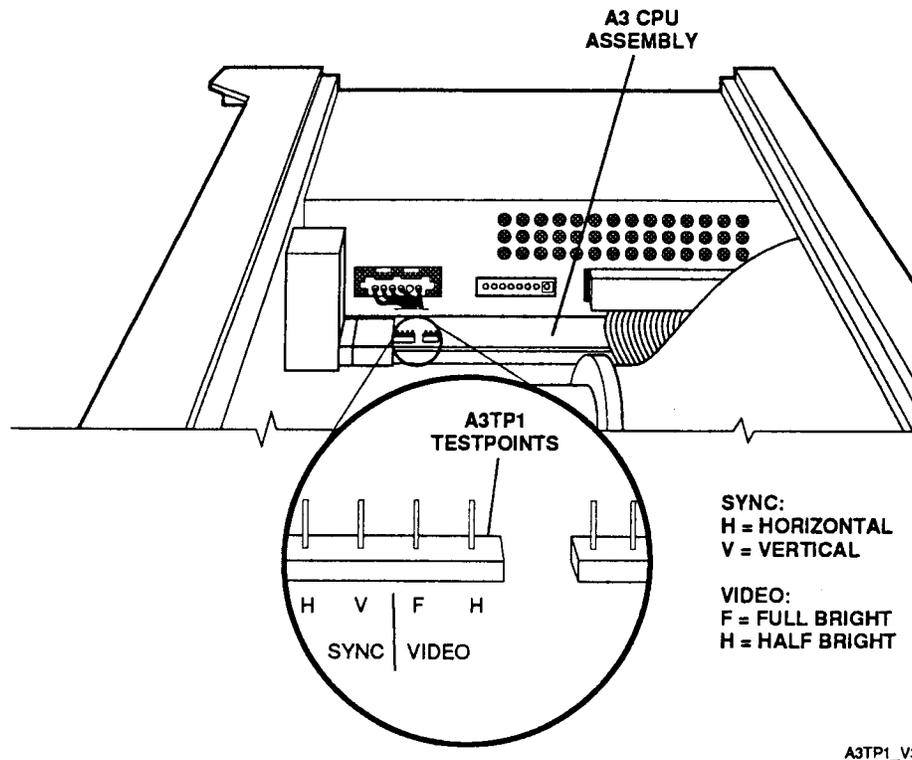

Figure 4-13. A3TP1 Testpoints
**G Check CRT video and sync signals at test points of A3TP1 (on A3 CPU Assembly) as shown in Figure 4-13.**